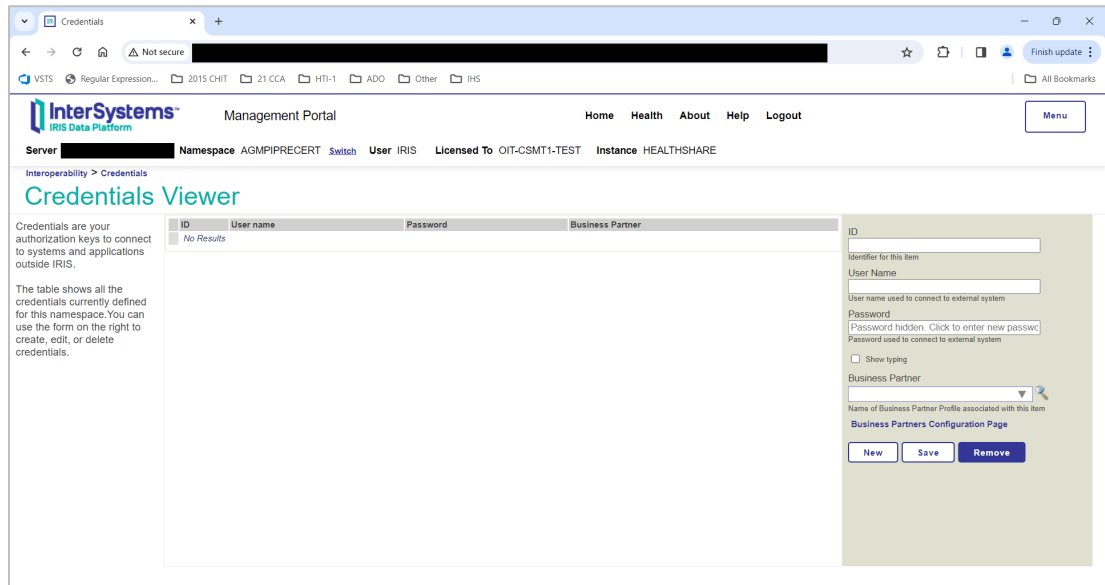

Figure 5-28: Credentials Viewer page
1. On the **Management Portal** screen, click **Interoperability | Configure > | Credentials** to display the **Credentials Viewer** page, as shown in Figure 5-28.